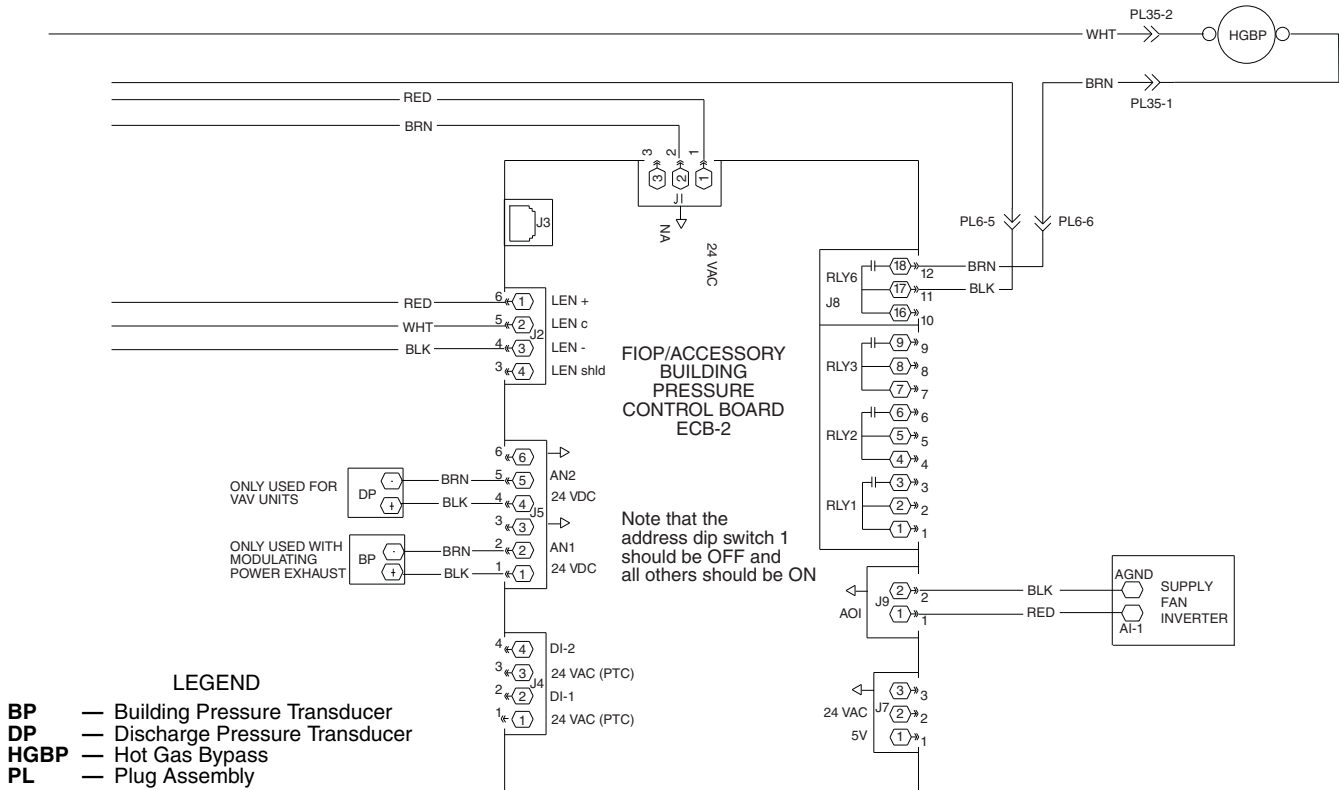

Fig. 12 — Auxiliary Control Box ECB2 Wiring
4. Locate the factory-installed wire harness for ECB2 in the control box and make the connections for J1, J2 and J5. Refer to Fig. 12.
4. Locate the factory-installed wire harness for BP in the control box and make the "+" and "-" connections. See Fig. 12.